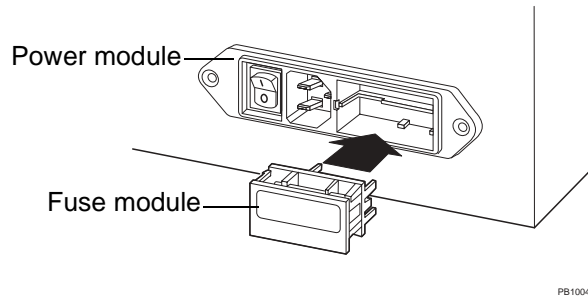

Figure 2-6 Replacing the Fuse Module
- Slide the fuse module into the power module until it snaps into place (Figure 2-6).